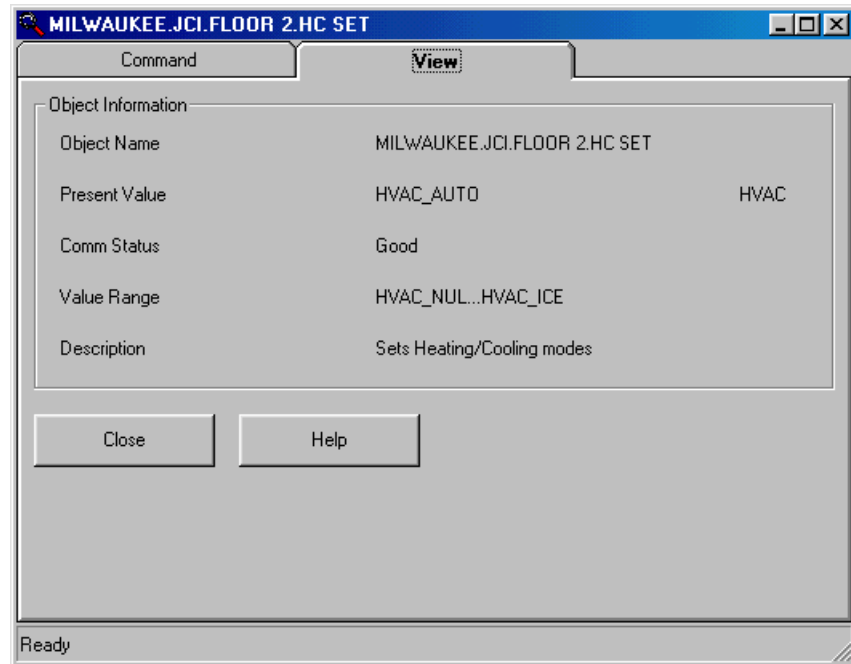

Figure D-6: M-Inspector Window with View Tab Visible
2. From the Actions menu, select Inspect, or click the Inspect toolbar button () , or right-click on the tag and select Inspect from the pop-up menu. The M-Inspector window appears with the complete hierarchical path of the tag displayed in its Title bar (Figure D-6). If the tag can be commanded and the user has the proper access rights, the Command tab is selected. Otherwise, there is no Command tab and the View tab is selected.
3. Click on the View tab. The View tab appears in the M-Inspector window (Figure D-6).